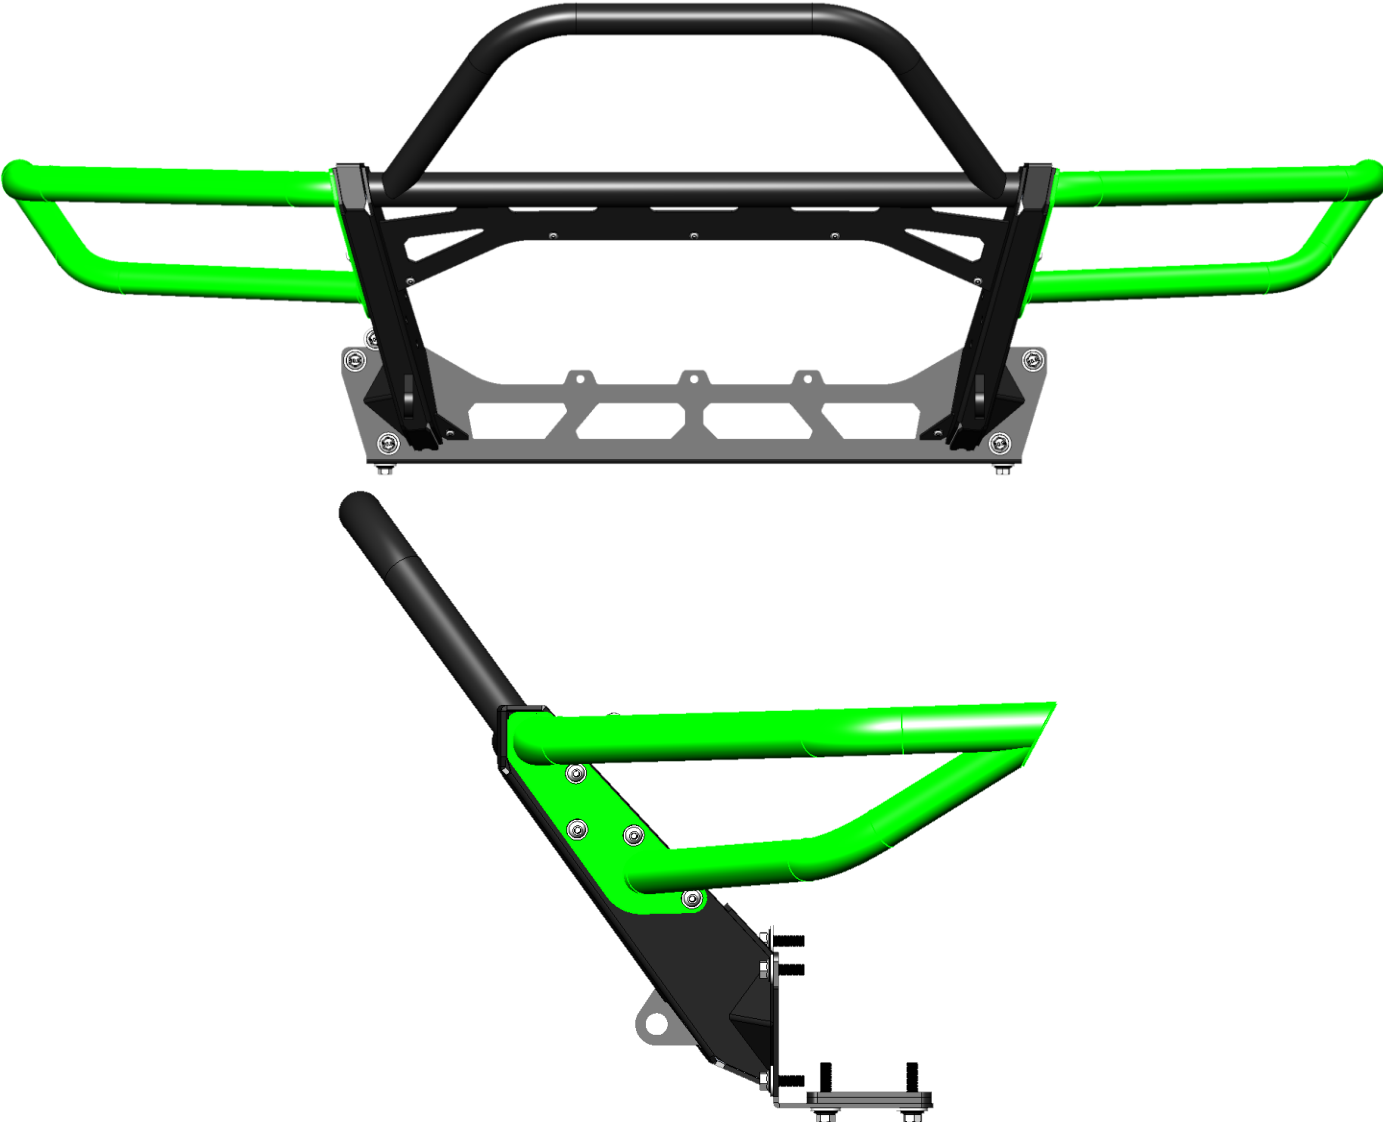

Figure 18
23. Locate both Bumper Wings, (8) eight M10 x 1.5 Button Head Screws, 25mm and (8) eight M10 x 1.5 Locknuts. Place the Wings onto each side of the Bumper and secure with the M10 Hardware. *Figure 18.*